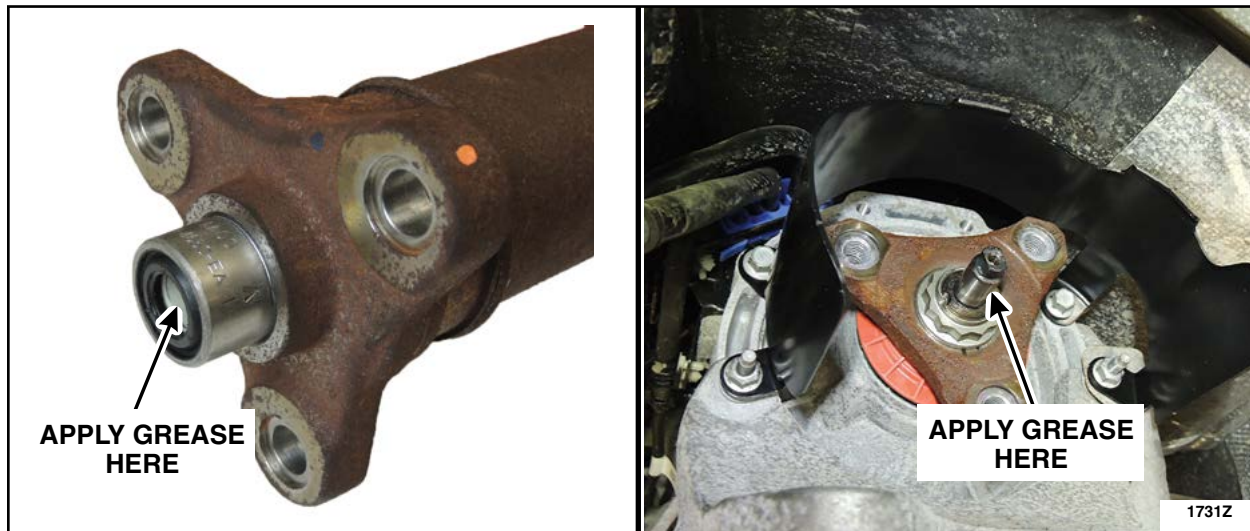

FIGURE 9
10. Lubricate the transmission output shaft and driveshaft bushing using a small amount of Motorcraft® XG-1-E1 Premium Long Life Grease or equivalent. See Figure 9.